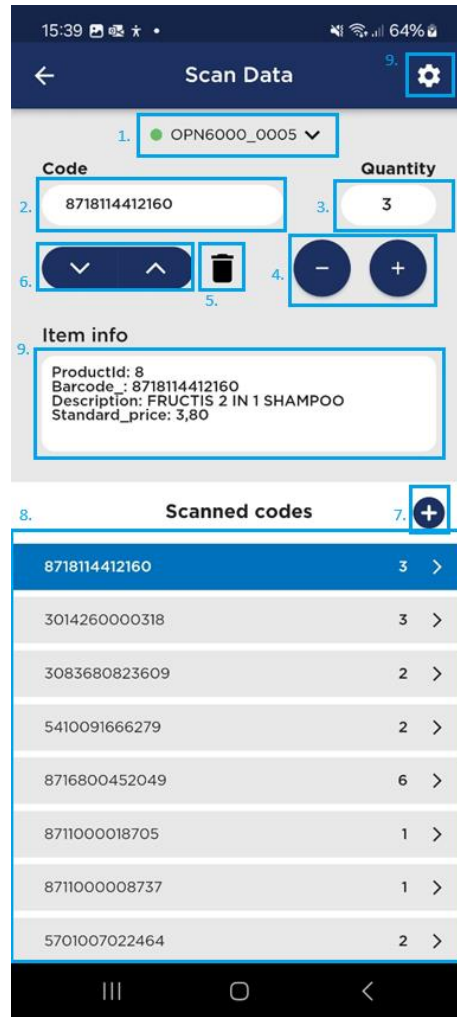

Figure 8-2: The elements on the Scan Data page.
8.1.1.1 Overview of Elements on the Scan Data Page (see Figure 8-2)